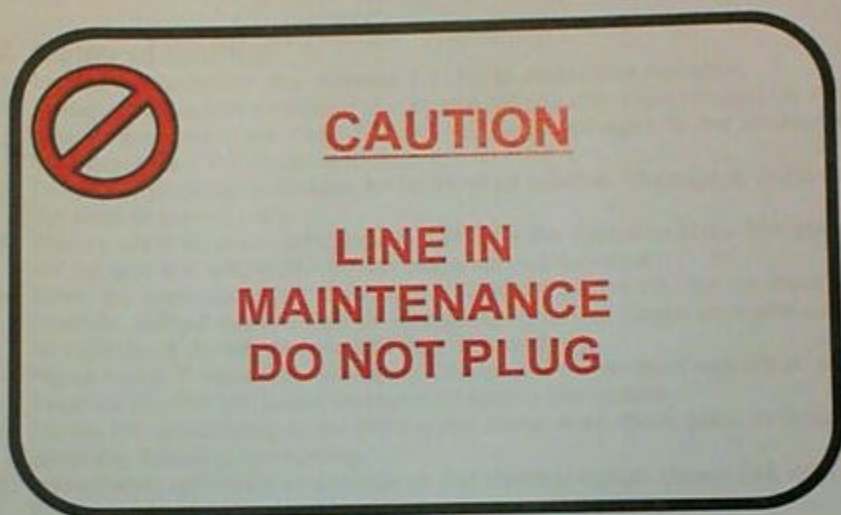

Fig. 5.1 Signboard for maintenance operations
2. Shut off the power main switch, before making any maintenance operation. Put a signboard near the main switch: LINE IN MAINTENANCE – DO NOT PLUG. (see Figure 5.1).